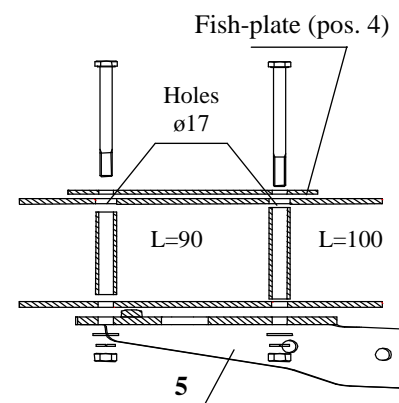

Fig. 2.
3. Put element (pos. 6) to the right chassis member (do it in such a way that a pin is compatible with a fabric holes and holes pos. C are compatible with a threaded holes. Fix it with bolts from the original towing eye.
4. Drill  $\varnothing 10,5$  mm through holes (pos. A and B) of element pos. 6 to the inside part of the boot. Then enlarge this hole by a drill  $\varnothing 17$ mm (do it only inside the boot). Next, slide a spacers L = 90 and 100 mm, as it shown a sketch, and fix it with bolts according to figure 2.
5. Position element (pos. 5) to the left chassis member (do it in such a way that a pin is compatible with a fabric holes), then position the element in such a way that its edge raze to an chassis member's edge (compare to the right side). Drill  $\varnothing 10,5$  mm through the holes (pos. A and B) to the boot . Other activities like in point 5.
6. Slide main bar (pos. 1) between brackets (pos. 5 and 6 and fix it with M12x35mm bolts (pos. 10)
7. Position the ball of towbar (pos. 2) with socket plate (pos. 3) and fix with M12x75mm bolts (pos.9) from the towbar accessories.